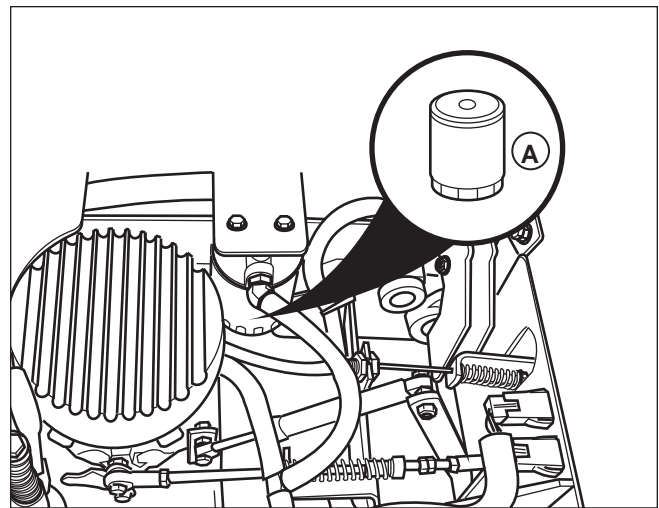

Figure 20. Change Hydraulic Oil Filter
1. Locate the transmission oil filter (**A**, **Figure 20**).